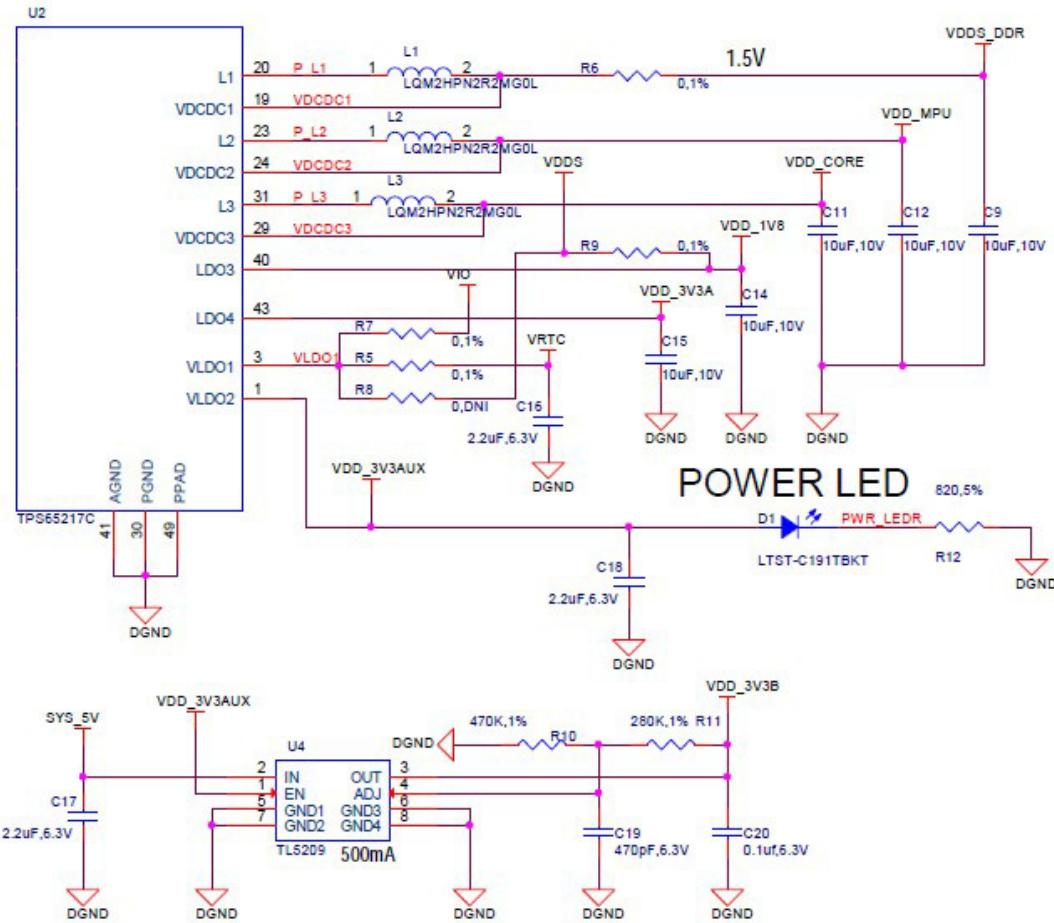

Figure 25 Power Rails
**Figure 25** shows the connections of each of the rails from the **TPS65217C**.
The power LED is a blue LED that will turn on once the **TPS65217C** has finished the power up procedure. If you ever see the LED flash once, that means that the **TPS65217C** started the process and encountered an issue that caused it to shut down. The connection of the LED is shown in **Figure 25**.